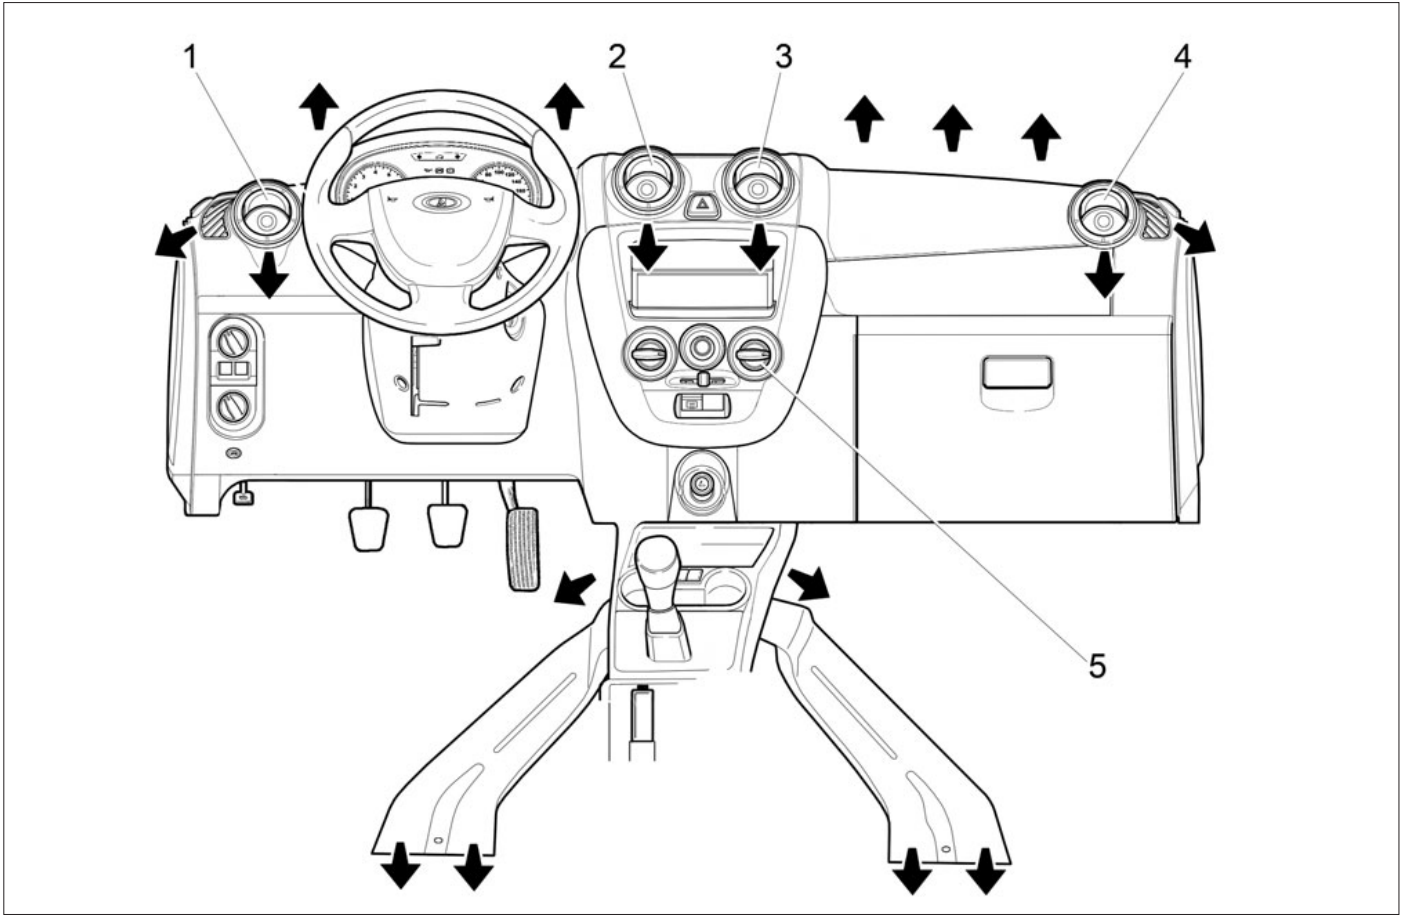

Fig. 39. The directions of the air flows out of deflectors and ducts
The air flow rate is adjusted by direct action on 1, 2, 3 and 4 nozzle deflectors (Fig. 39) through changing the deflector positions right down to their full closing. To open the desired nozzle press the special hole in the deflector. The air flow direction is adjusted by the deflector rotation.
- **nozzles 1, 2, 3 and 4** (see Fig. 39) should be opened by pressing the dedicated hole in the deflector;
In the handle 4  position, at least one of the nozzles 1, 2, 3 or 4 (see Fig. 39) should be open, otherwise the air cooling heat exchanger (evaporator) can get iced and block the air flow supply to the passenger compartment.